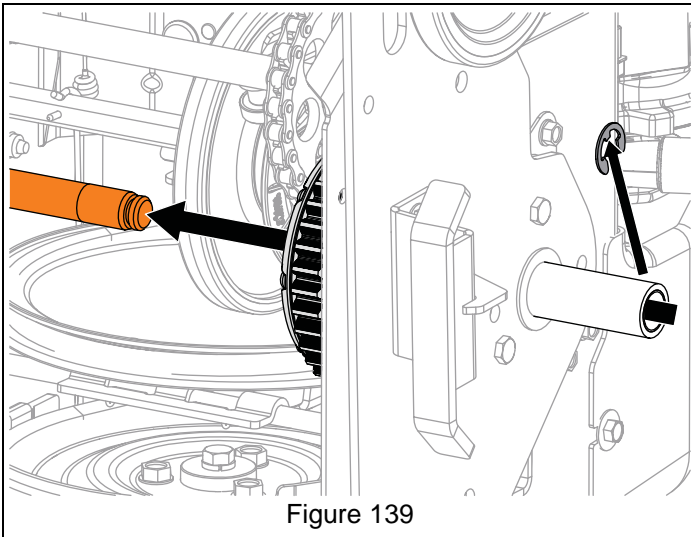

Figure 139
- See Figure 139.
6. Remove E-ring from axle end and remove axle from differential, but **DO NOT** completely remove axle from unit. See Figure 139.